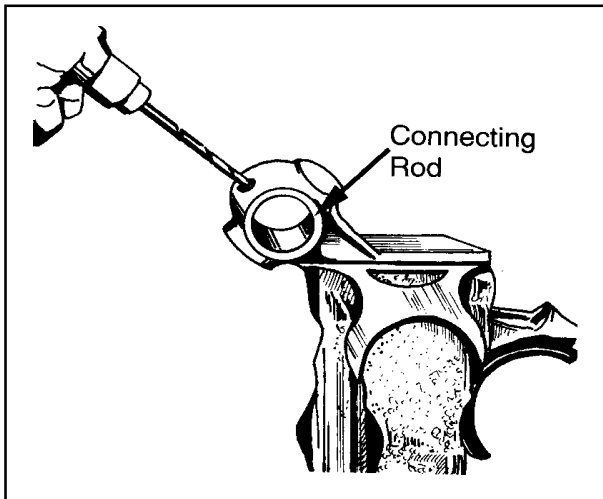

Figure 23
3. Using the hole in the top of the connecting rod as a guide, drill a $\frac{1}{4}$ in. (6.350 mm.) diameter hole in the bushing Figure 23.